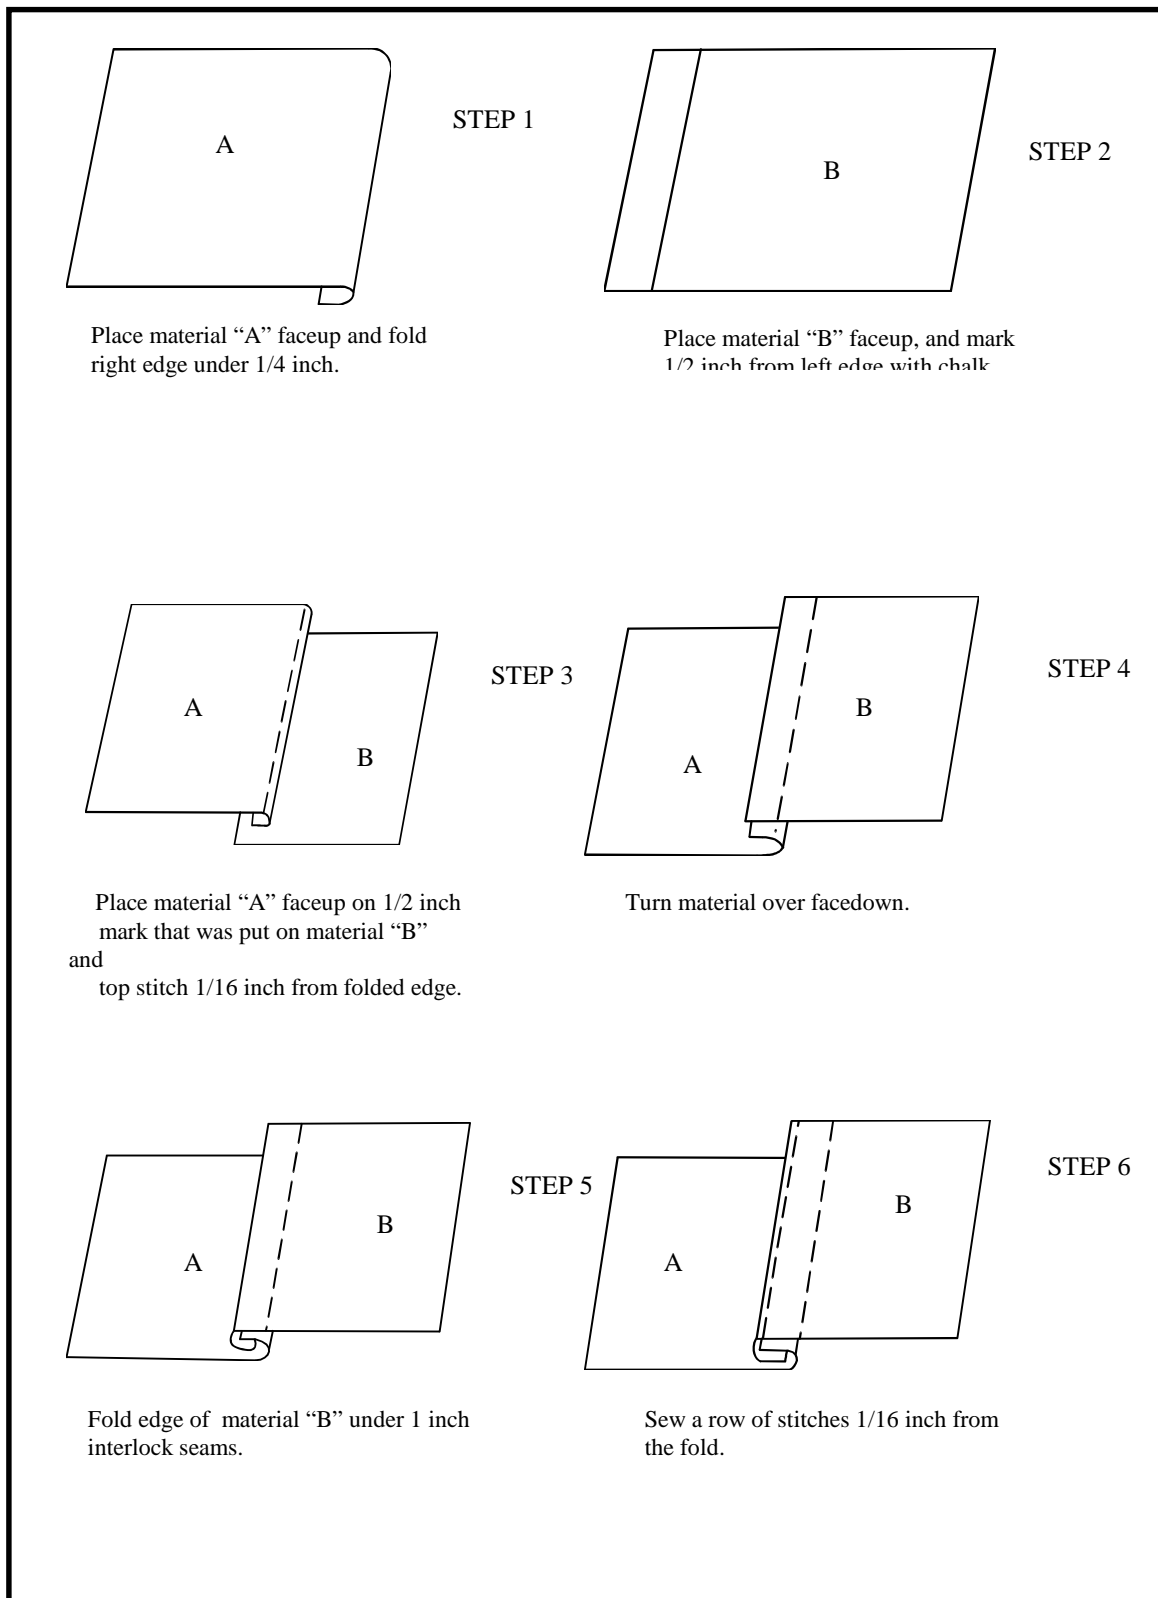

Figure 3-12. Seam type 4
e. Seam Type 4. Seam type 4 (Figure 3-12) is a double-lapped seam. It is an extremely strong seam, because no raw edges are left exposed to unravel and two rows of stitches are used. This seam is used in garments that get a great deal of stress and are washed often. It is used to join the fronts and backs of shirts and field uniforms. When the seam is sewn correctly, it looks the same on the inside and the outside of the garment. To make seam type 4--
(1) Cut an 8- by 8-inch piece of material into two pieces 4 inches by 8 inches.
(2) Place the two pieces of the material faceup and side by side.
(3) Mark the piece of the material on the left, 1/4 inch from the right edge (8- inch length).
(4) Mark the piece of the material on the right, 1/2 inch from the left edge (8-inch length).
(5) Fold the material on the left 1/4-inch mark and place it on the 1/2-inch mark of material on the right.
(6) Sew a row of stitches 1/16 inch from the folded edge of the top material. Make certain to tack both ends of the seam.
(7) Turn the joined materials over with the back side of the material up.
(8) Mark 1/4 inch from the raw edge of the joined seam.
(9) Fold under 1/4 inch at mark and stitch 1/16 inch from the folded edge across the length of the material.
(10) Tack at both ends of the seam with a 1-inch tack (no less than 7/8 inches, or no more than 1 1/8 inches).